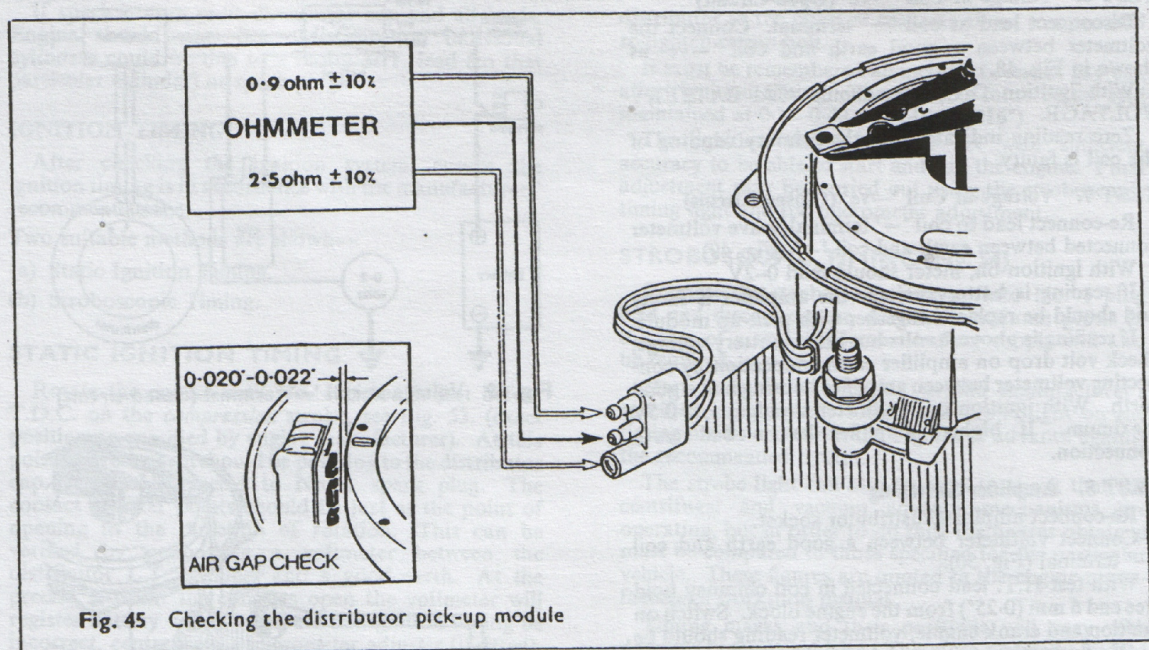

Fig. 45 Checking the distributor pick-up module
- (a) Module air gap – Rotate the engine so that the ferrite rod marked No. 1 cylinder on Jaguar or the rod immediately under the rotor electrode on Aston Martin, is in line with the pick-up module, see Fig. 45.